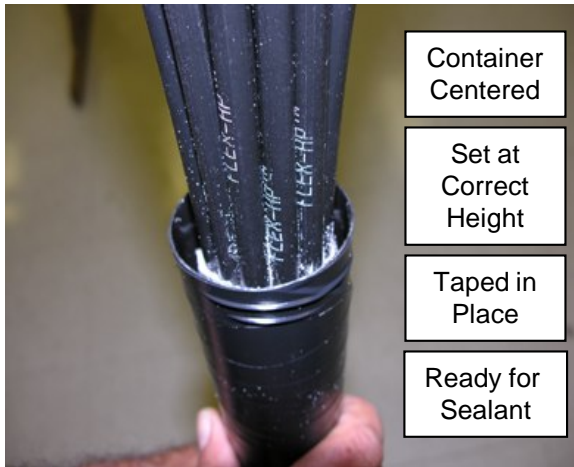

Figure 16
12.7 Verify 1/4" gap or separation between top edge of Container and cable jacket. Verify top edge of Container is still 1/2" to 3/4" above end of tube cable jacket. If necessary, make adjustments to obtain / maintain these measurements. **See Fig. 16.**